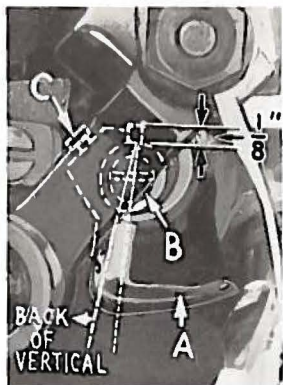

Fig. 8
Insert upper looper (A, Fig. 8) in its holder. Screw (B) holds upper looper in its holder, and permits it to be pushed in or out, or turned around its shank. Insert upper looper holder into upper looper shaft, if it is not already in place. Screw (C) on clamp holds the upper looper holder in the shaft. Locate upper looper in its holder so that the shank extends  $1/8$  inch beyond holder.
When the upper looper is at the right end of its stroke, upper looper holder should be set to position upper looper shank slightly back of vertical (Fig. 8).